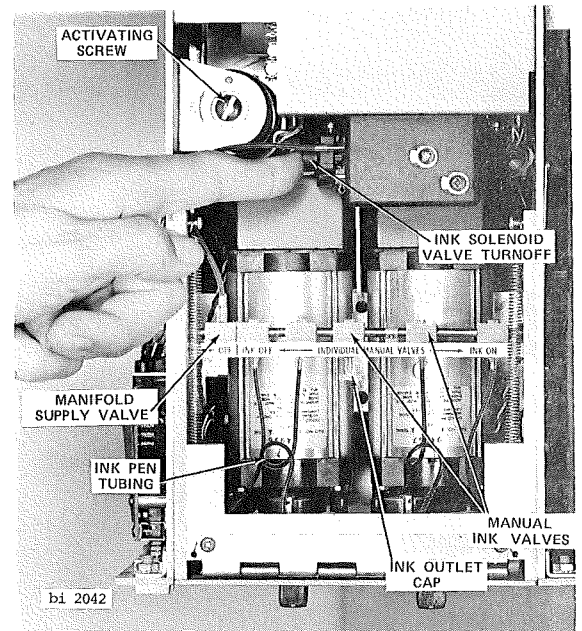

FIGURE 5-12 BLEEDING THE INKING SYSTEM
1. Use Figure 5-12 as an aid with the procedure that follows.
2. Slide all manual ink valves (6) to OFF position. Follow arrows on manifold bar.
6. Turn ink solenoid valve ON. Push hinged valve closed with finger. (Figure 5-12.) Solenoid plunger will close, opening diaphragm in valve assembly. Hold closed. Ink should fill tubing linking solenoid valve with manifold supply valve.